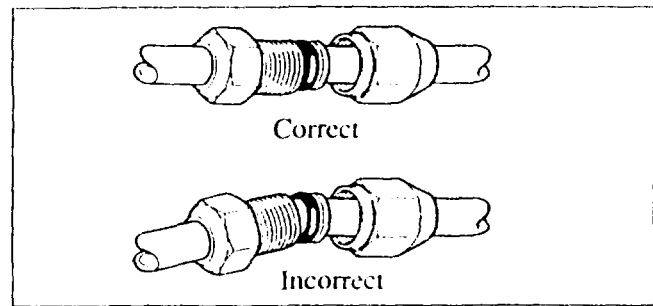

Figure 3: Fitting Alignment
4. Align both fittings before threading on the nut (figure 3).